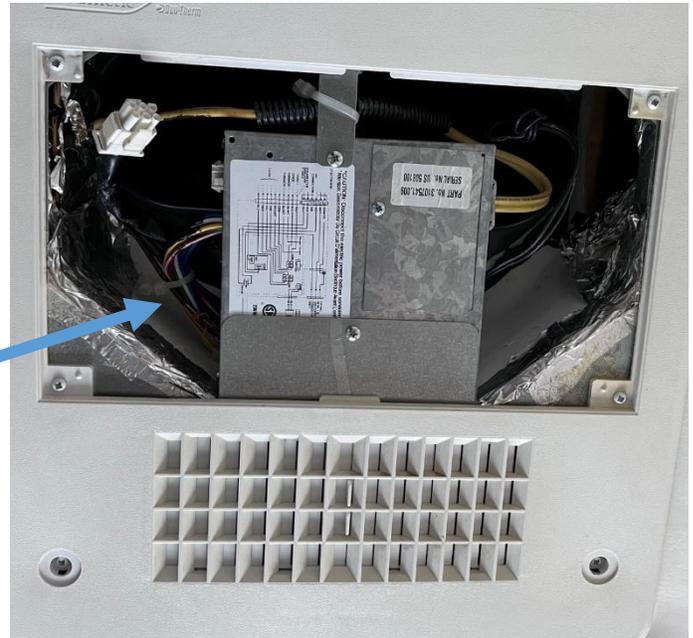
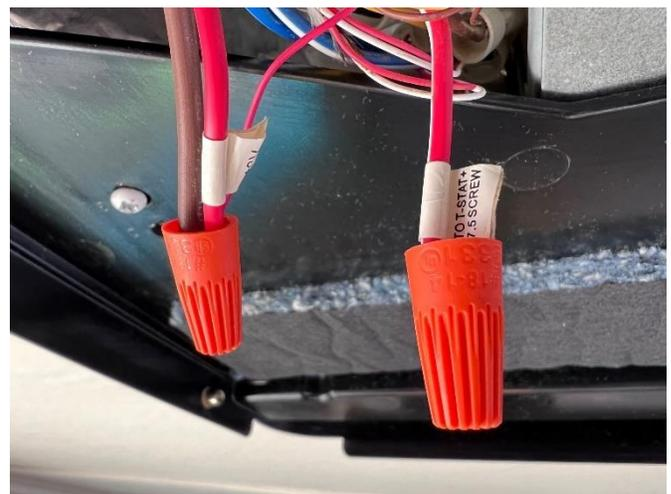

Figure 2
Figure 3
Step 1: After removing power from the AC unit, remove the ceiling vent as shown in *Figure 2*. Identify the red and red/white wires exiting the control box near the area indicated by the blue arrow. These wires are pulled out and shown in *Figure 3* connected to a brown and thin red wire. They may still have labels on them to indicate their function.
Step 2: Remove the wire connected to the red/white wire which may still have the label “To T-Stat 7.5 Screw”. Put a connector over the red wire with stripe as shown in *Figure 3*.